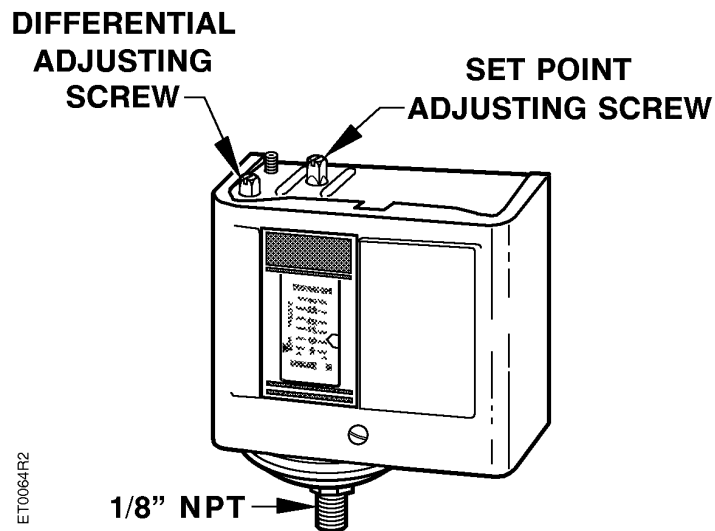

Figure 1. Setpoint and Differential Adjusting Screws.
2. Connect the switch to the air supply line using the 1/8-inch male National Pipe Tapered (NPT) fitting. See Figure 1.
Adjustment (See Figure 1)